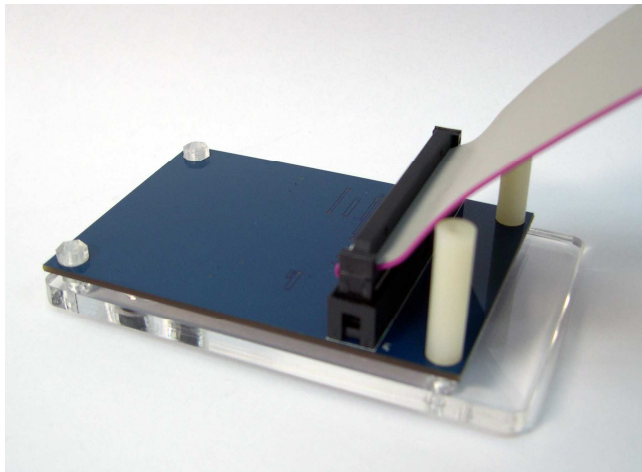

Figure 1.3 Connect the IDE cable to the back of **DC2** board
3. Connect the IDE cable to the back of the **DC2** board, as shown in Figure 1.3.